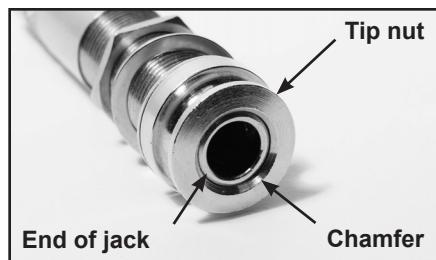

Figure 9e – Optimal alignment
5. Screw on the tip nut as tightly as you can, as there is the potential for an annoying buzz if it is not tightened properly. You can use pliers, but try not to mar the edges. If correctly installed, the end of the threaded portion of the jack should be slightly visible in the chamfer at the end of the tip nut (see figure 9e). Your cable plug needs to be able to make a firm connection with the jack; it should snap distinctly into place when inserted. If the threaded portion of the jack is too far inside the tip nut, the cable plug can be stopped by the tip nut before it makes a good connection with the jack. If this is the case, you will need to remove the tip nut, loosen the retaining nut, adjust the position of the inner nut so that the end of the jack barrel is very slightly farther out, retighten the retaining nut and re-install the tip nut.